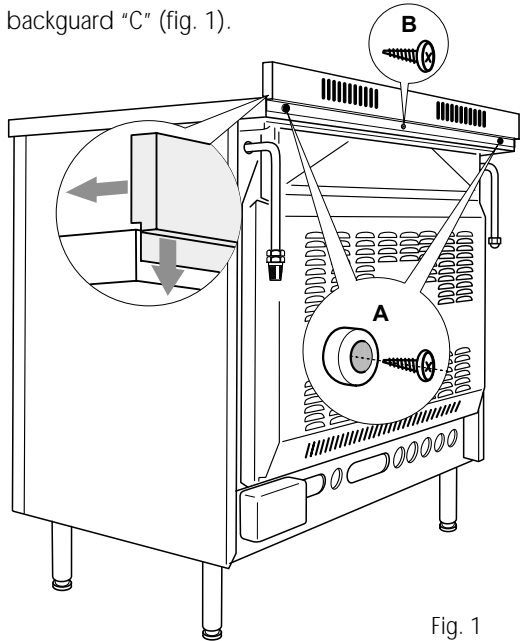

Fig. 1
Before installing the cooker, assemble the backguard "C" (fig. 1).
- Assemble the backguard as shown in figure 1 and fix it by screwing the central screw "B" and the spacers "A".